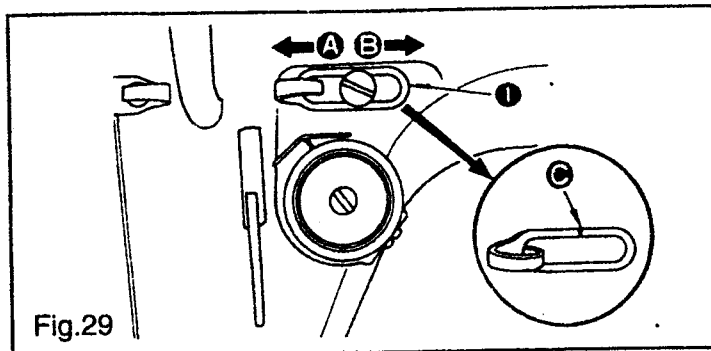

Fig.29
1)If the mounting position of the counter knife is moved in direction ④ from the standard mounting position , the thread length after thread trimming will be increased accordingly.
2)If the mounting position is moved in direction ⑤ , the thread length will be decreased accordingly.
- ① Moving knife
- ② Center of needle
- ③ Standard:3 to 3.5 mm
25. ADJUSTING THE THREAD TAKE-UP STROKE (Fig.29)